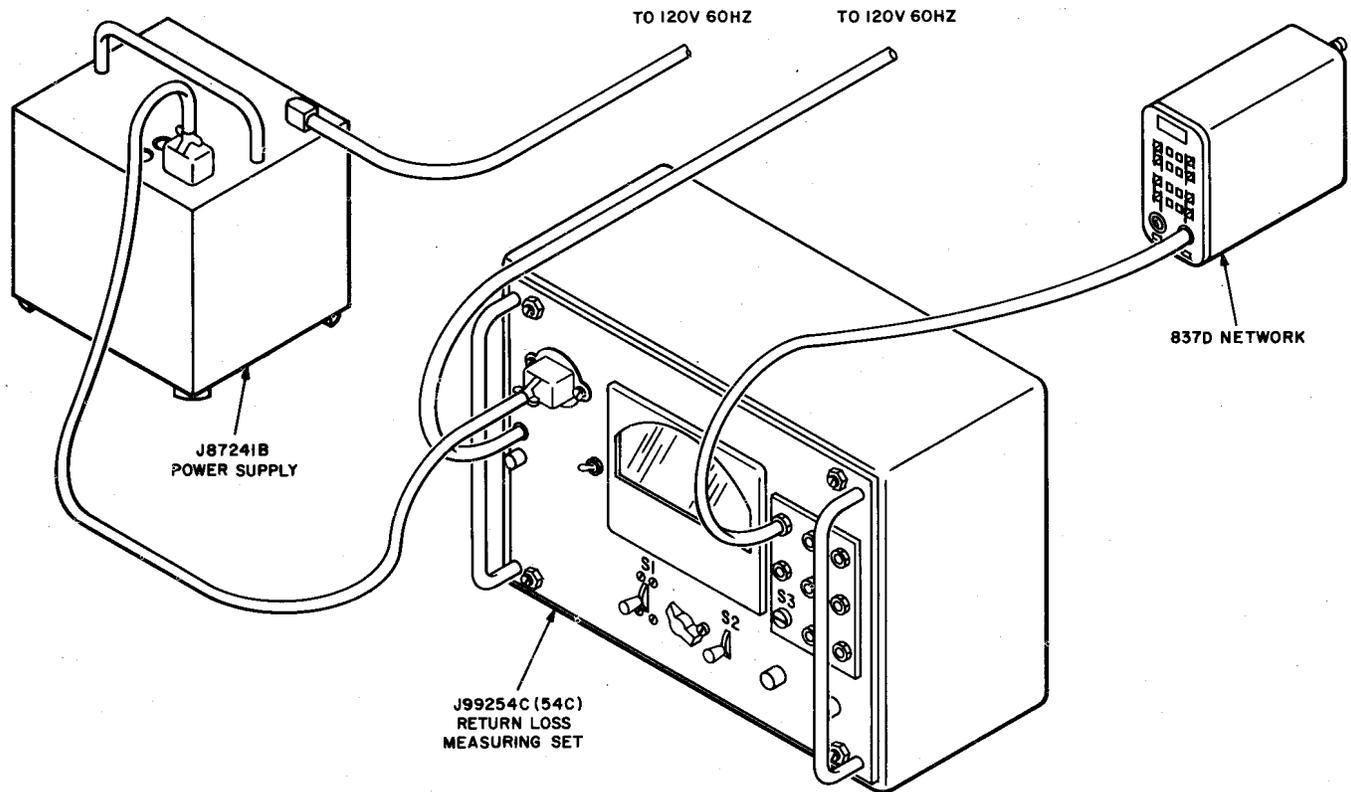

Fig. 3—Return Loss Adjustment of 837D Network—Test Equipment Connections
2	<p>Connect the 54C RLMS,* the J87241B power supply, and the 837-type network as shown in Fig. 3 (an 837D is shown). Set the switches on the 54C RLMS as follows:</p> <p>S1 to 2000—3000~</p> <p>S2 to SEND LEVEL CAL</p> <p>S3 to 900Ω 2MF for 837A, 837B, and 837G networks.</p> <p>S3 to EXT NET for 837E and 837F networks. Connect a 600-ohm plus 2.16-μF termination to the EXT NET jacks.</p> <p>AT1 to RETURN LOSS scale.</p> <p>*Where available, the KS-20501 return loss measuring set may be used as an alternative to the 54C RLMS. It is powered from commercial 60-Hz supply only and needs no auxiliary supply. Where this section specifies using the 500- to 2500-Hz sweep of the 54C RLMS, the echo range of the KS-20501 RLMS may be used. Where this section specifies using the 2000- to 3000-Hz sweep, the high range of the KS-20501 RLMS may be used. Although the readings of the 54C RLMS and the KS-20501 RLMS usually differ a little from each other, the same numerical requirements should be used for the readings of the KS-20501 RLMS and the 54C RLMS.</p>
- 4 Connect the 54C RLMS, the J87241B power supply, and the 837D network as shown in Fig. 3. Set the switches on the 54C RLMS as follows: